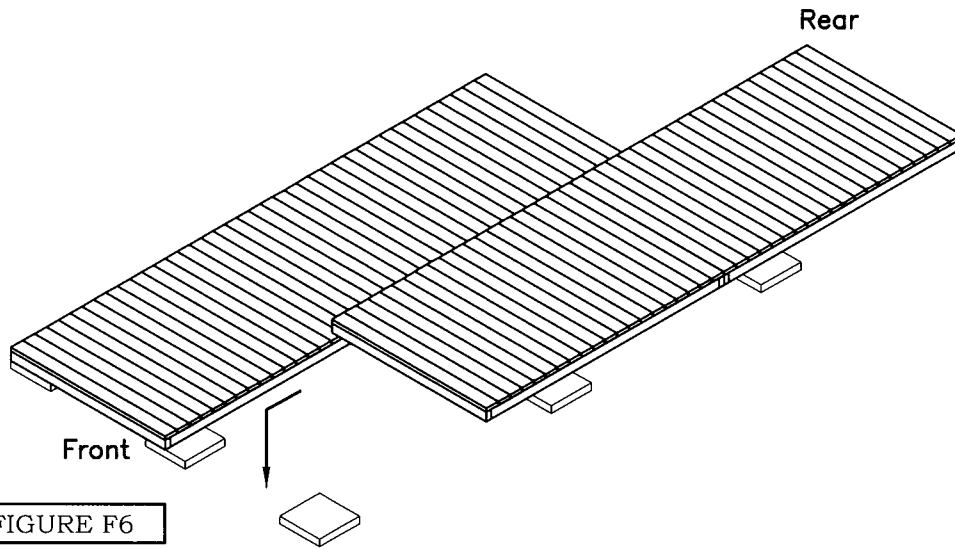

FIGURE F6
- Two of the four floor panels come with $1\frac{1}{2}$ " screws on the edge two floor boards. Remove the edge floor boards so you can secure the floor panels together. Place floor panels butt up against each other on the leveled foundation. Use 4-6 3" long screws per side as shown in Figure F6. See Detail 2. Re-attach the floor boards after securing the floor panels together using the same $1\frac{1}{2}$ " screws.